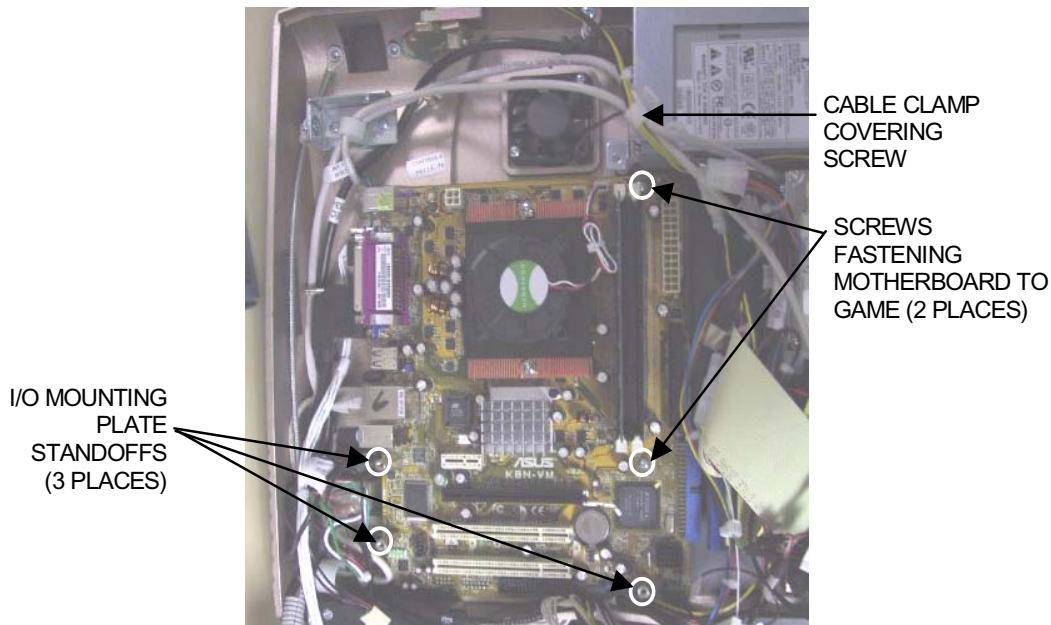

FIGURE 7 -ASUS MOTHERBOARD ASSEMBLY (3 STANOFFS & 2 SCREWS)
6. If your I/O mounting plate was secured by 3 screws: Remove the screw securing the cable clamp to the power supply bracket. Remove the 2 screws securing the motherboard assembly to the game, located on the right side of the motherboard (Figure 7).
8. Disconnect all connections to the motherboard, taking note of their positions so you can reconnect them to the new board. Carefully remove the motherboard, as well as the 3 or 4 standoffs and hex nuts that were supporting the I/O mounting plate. See Figures 7 and 8. Place the motherboard into an anti-static bag for storage. **NOTE: Be sure to read the Motherboard Handling Precautions before handling the board.**